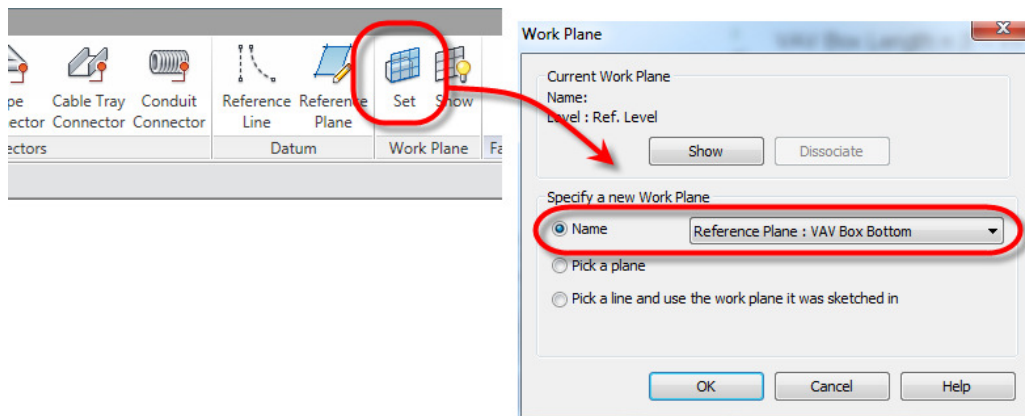

Figure 21. Setting the current Work Plane.
- 32.** From the *Home* ribbon, click the **Set** tool. In the Work Plane dialog, click **Name**, then select *Reference Plane: VAV Box Bottom* from the list as shown in Figure 21. Click **OK**.